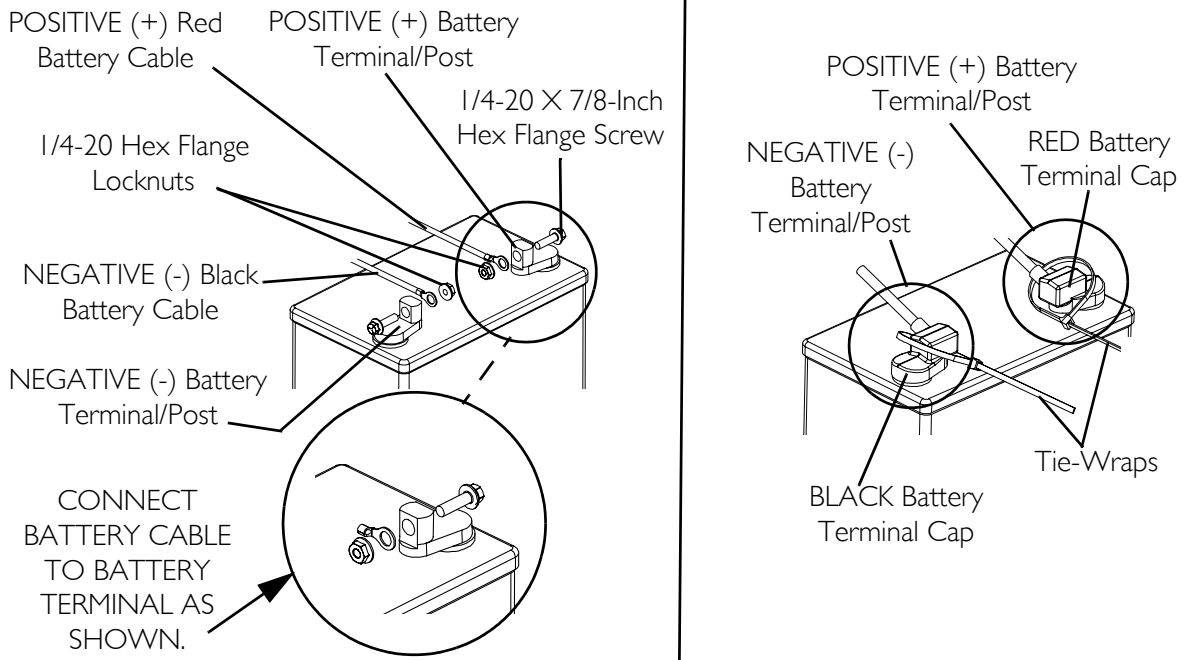

FIGURE 12.6 Connecting Battery Cables - Direct Mount Method
- Dual U1 Batteries - Use direct mount method. Refer to FIGURE 12.5 and FIGURE 12.6.
- Dual Group 22NF Batteries with Mounting Holes in the Terminal(s)/Post(s) - Use direct mount method. Refer to FIGURE 12.5 and FIGURE 12.6.
NOTE: For this procedure, refer to FIGURE 12.5 and FIGURE 12.6.
When connecting the battery cables to the battery(ies), the battery cable(s) MUST be connected to the battery terminal(s)/post(s) as shown in Detail “A” or Detail “B” of FIGURE 12.6 (depending on battery type). Otherwise, damage to the battery cable can result when battery terminal caps are installed.
2. Connect battery cable(s) to battery(ies) terminal(s)/post(s) as shown in Detail “A” or Detail “B” of FIGURE 12.6, depending on battery type:
3. Secure the battery cable(s)/ring terminal(s) to the battery terminal(s)/post(s), BLACK to NEGATIVE (-) and RED to POSITIVE (+), with the provided 1/4-20 x 7/8-inch hex flange screw and hex flange locknut as shown in Detail “A” or Detail “B” of FIGURE 12.6, depending on battery type. Securely tighten.
5. Slide terminal cap(s) down battery cable(s) and onto battery clamps (FIGURE 12.6).
6. Using the 11½-inch long tie-wrap, secure each terminal cap in place (Detail “C” of FIGURE 12.6).